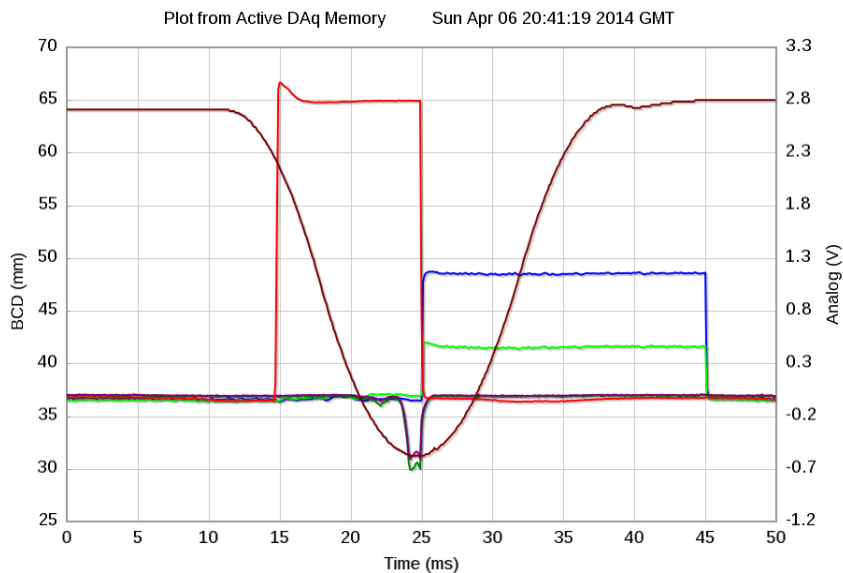

Figure 1 Double rate dip at 4V beam loss
- Mid spill early beam loss peak more pronounced, but still negligible, see Fig. 1